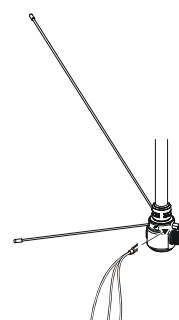

Figure 5
4. Connect the supplied radial wires to the bottom of the **ATAS-25** main body, then extend them outward from the antenna base (Figure 5).